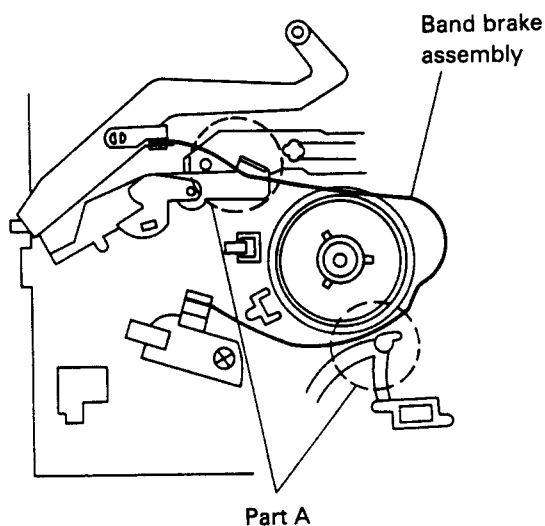

Fig. 1-23-2
- (1) Remove screw (1).
- (2) Remove the band brake assembly from the tension regulation gear arm assembly.
- (3) When reassembling the band brake assembly, use the same procedures shown above in reverse order.
Note: When replacing the tension regulation band, do not apply excessive force to the band. If applied, the band will be deformed. Thread the band brake assembly as shown in Figure 1-23-2. Always perform the tension regulation arm position adjustment described under item 1-23.
- (3) Make sure the band brake assembly is threaded as shown in Figure 1-23-2. Particularly paying attention to the part "A".